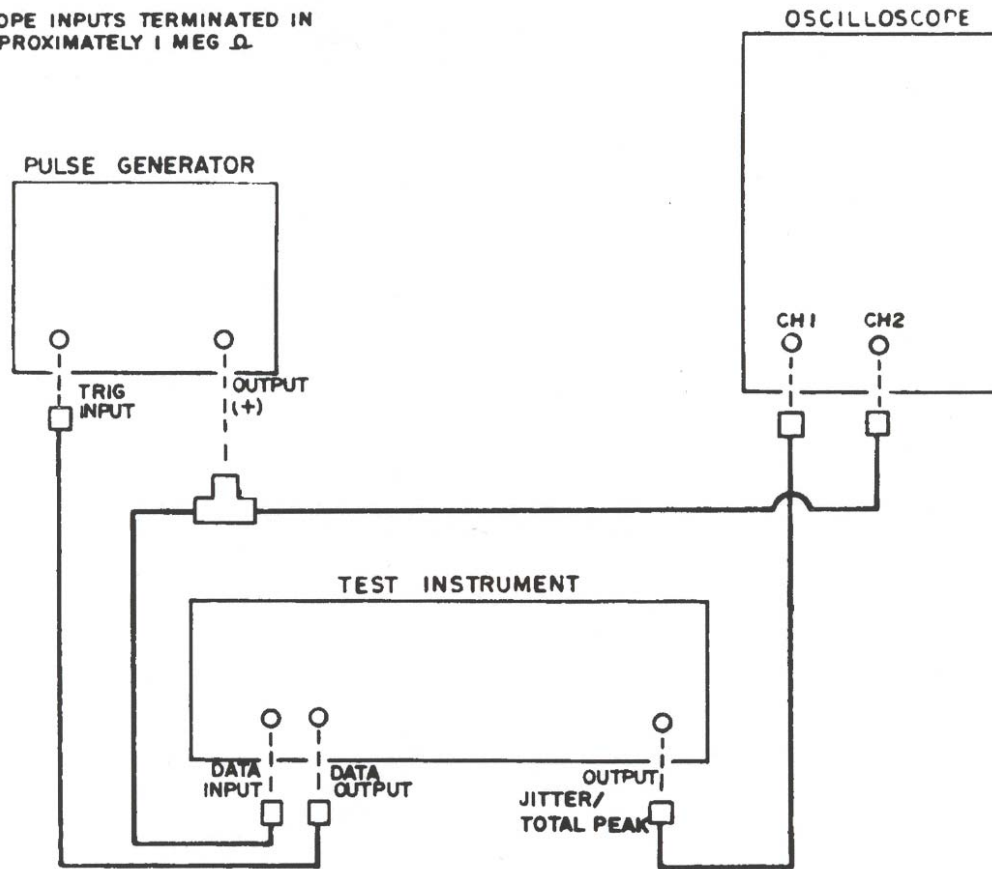

Figure 4. Jitter-total peak - equipment setup.
To prevent damage to circuitry, be sure RS232C interface board is installed in TI, and pulse generator is adjusted for minimum output before connecting as shown in figure 4.
(3) Connect equipment as shown in figure 4.
(4) Adjust pulse generator for external triggered operation. Adjust output for +3 V peak and pulse width for 40 percent duty cycle as monitored on channel 2 of oscilloscope. Damage of data input circuit will occur if this is not done. If digital readout is not between 18 and 22 percent and oscilloscope channel 1 waveform is not at least a 2-V p-p square wave, perform **b** below.
(5) Set **JITTER/TOTAL PEAK** switch to **JITTER**. Digital readout will indicate less than 2 percent.